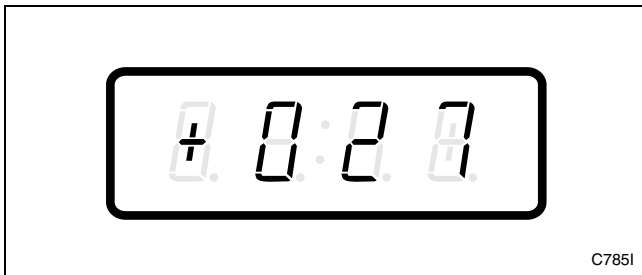

Figure 112
3. Press the DELICATES (+) or the COLD (-) keypad to scroll through the programmable options until “+027” appears in the VFD. Refer to *Figure 112*.